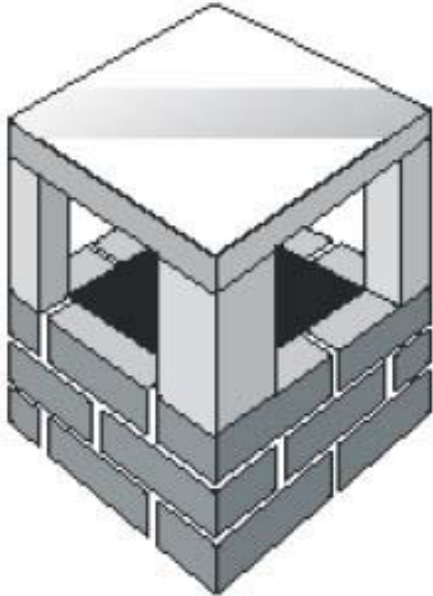
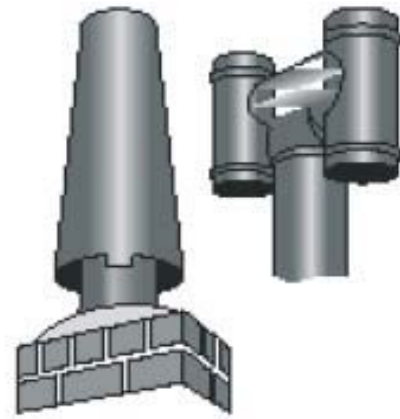

Figure 10
Figure 18
**REMEDY:** If the trouble is recurrent, change the fuel for a fuel with lower tar content. The variant shown in Fig.10, which is intended for protecting from rain and wind, can also replace the used square or circular termination. The combined area of the four openings should not exceed twice the area of the flue.
- fitting chimney draught-inducing cowls to increase up-draught, as the indicated ones on Fig. 18;
REMEDY: Try to raise the chimney terminal out of the turbulent zone. If this is impossible, protect it in one of the ways indicated in Fig. 10 or Fig. 18.